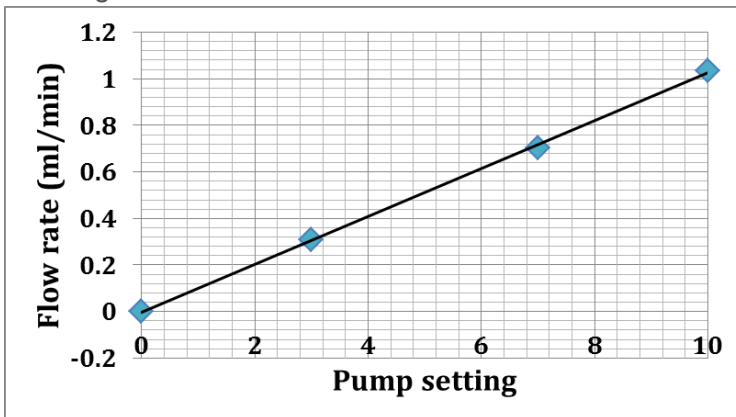

Figure 2. Example calibration curving using PF22X0103 with 3 QV500 chambers.
3. Do this procedure three times for each of three different settings (for example, low, medium and high speed), then plot the mean values on a calibration curve, an example of which is shown in Fig. 2.